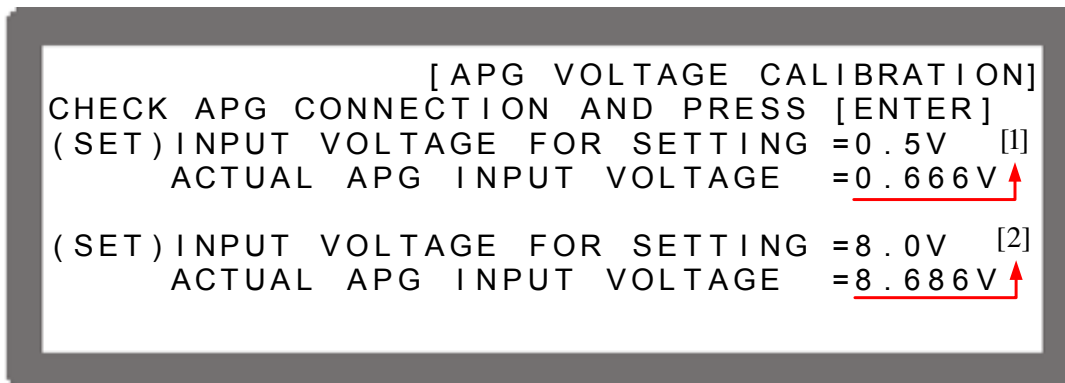

Figure 3-119
4. It will ask users to input about 0.5V voltage signal (Pin 3). The cursor stops at position [1] as Figure 3-119 shows after pressed  in the above step. Adjust the Power Supply to 0.5V±0.2V and use DVM1 to measure the reading of Power Supply. Input the voltage (3 digits after decimal point) read by DVM 1 to position [1] and press  to confirm.
5. Press  again will ask users to input about 8.0V voltage signal (Pin 3). The cursor stops at position [2] as Figure 3-119 shows after pressed . Adjust the Power Supply to 8V±0.2V and use DVM1 to measure the reading of Power Supply. Input the voltage (3 digits after decimal point) read by DVM 1 to position [2] and press  to confirm.